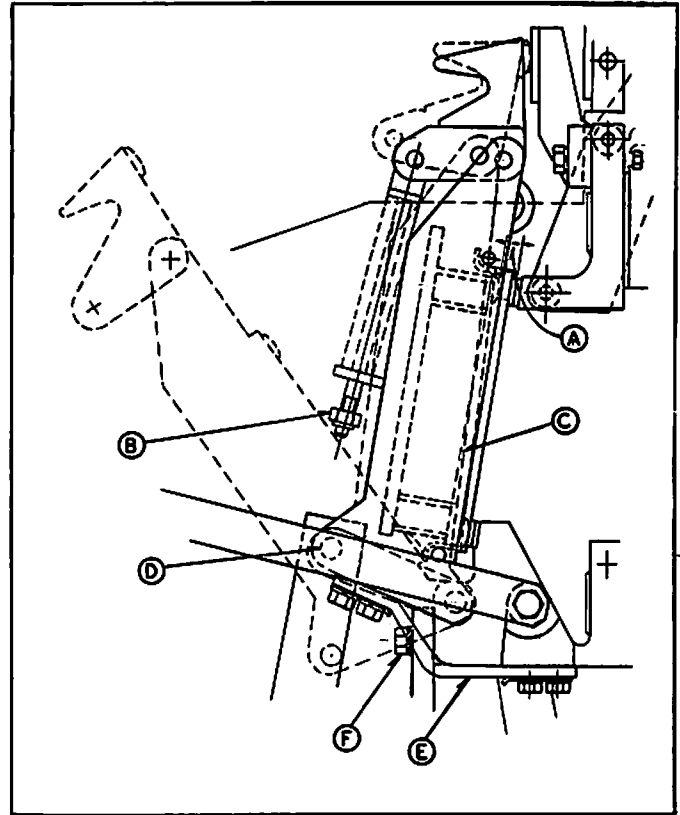
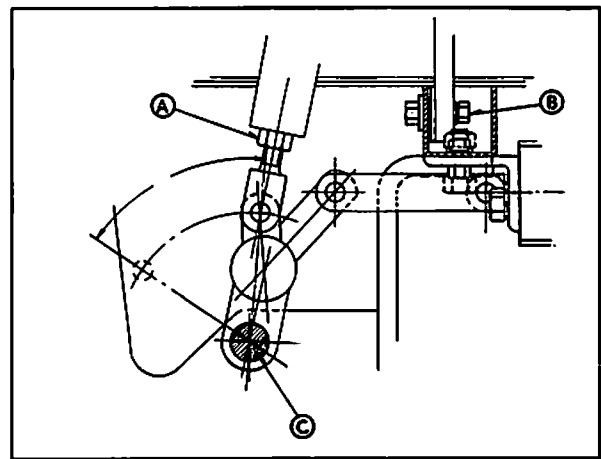

FIGURE 20
FIGURE 21
6. Periodically test tightness of bolts. Fig. 20-F; Fig. 21-B.
7. Adjust main contact deflection by rotating push-rod on threaded clevis, $1/2$ turn $1/32''$ on main upper contact. Fig. 21-A.
8. Main pivot axis. Fig. 21-C.
1. Main contacts should be open $3/8''$ when arcing contacts touch. Fig. 20-A.
2. Arcing contact adjusting nut. Fig. 20-B.
3. Main contact bridging member. Fig. 20-C.
4. Pull pin to adjust push-rod. Fig. 20-D.
5. Shunt carries full current only during a portion of the interrupting time. Fig. 20-E.